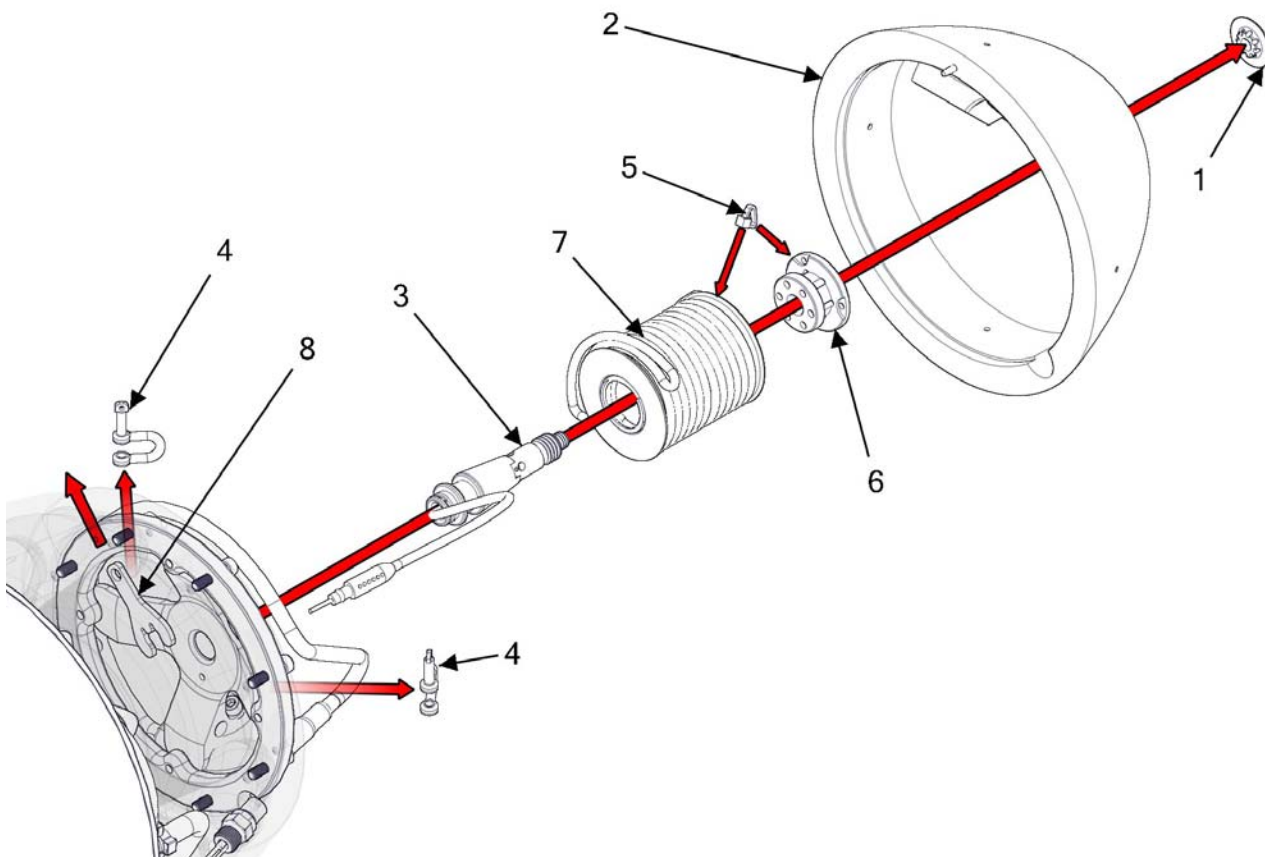

Figure 2-10 Recovery assembly.
2. Remove the sonar dome vent washer (Figure 2-10, Item 1).
3. Remove the buoyant sonar dome assembly (Figure 2-10, Item 2).
4. Remove the zip ties (Figure 2-10, Item 5).
5. Unscrew the spool nut (Figure 2-10, Item 6).
6. Remove the shackles (Figure 2-10, Item 4) from the recovery spool base.
7. Remove the recovery spool assembly with a line (Figure 2-10, Item 7).
8. Remove the retention clip (Figure 2-10, Item 8).
9. Disconnect the nose release cartridge (Figure 2-10, Item 3) connector from the altimeter.
1. Feed the nose release cartridge wire (Figure 2-10, Item 3) through the center of the recovery spool base, and feed the connector back out at 4 o'clock position.
2. Install the retention clip (Figure 2-10, Item 8) onto the nose release cartridge under the recovery spool base at the 4 o'clock position. Rotate the nose release cartridge so that the center tab on the retention clip aligns with and inserts into the slot on the cartridge base.
4. Insert a cable tie through one of the outer holes on the large end of the spool nut (Figure 2-10, Item 6) and leave open. Slide the recovery spool assembly with a line (Figure 2-10, Item 7) over the nose release cartridge (Figure 2-10, Item 3).
5. Slide the spool assembly with a line (Figure 2-10, Item 7) over the nose release cartridge (Figure 2-10, Item 3). Tighten the spool nut (Figure 2-10, Item 6) to the nose release cartridge until it is flush with the end of the large threads. The spool should rotate easily.
6. Install the end loop of the line closest to the base through *both* shackles. (Figure 2-10, Item 4).
8. Attach the open cable tie on the spool nut to the forward loop on the recovery spool. Tighten the zip tie to secure the line to the spool nut (Figure 2-10, Item 5). Hold the spool nut, and rotate the spool to take up any excess slack in the recovery line.
10. Attach the buoyant sonar dome assembly (Figure 2-10, Item 2) (with flotation foam and index pin on top) to the release cartridge assembly with the sonar dome vent washer (Figure 2-10, Item 1). Use long-nose pliers to tighten.